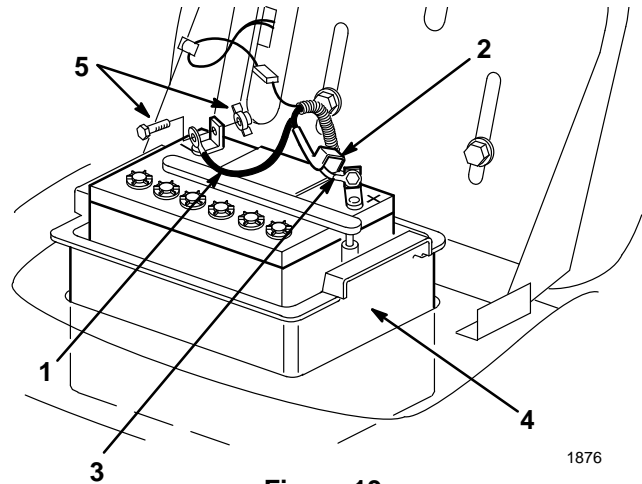

Figure 19
3. Disconnect the negative (black) ground cable from the battery post (Fig. 19).
4. Slide the rubber cover up the positive (red) cable. Disconnect the positive (red) cable from the battery post (Fig. 19).
- Using the bolt and wing nut, connect the positive (red) cable to the positive (+) battery post (Fig. 19). Slide the rubber cover over the battery post.
- Using the bolt and wing nut, connect the negative (black) cable to the negative (-) battery post (Fig. 19).